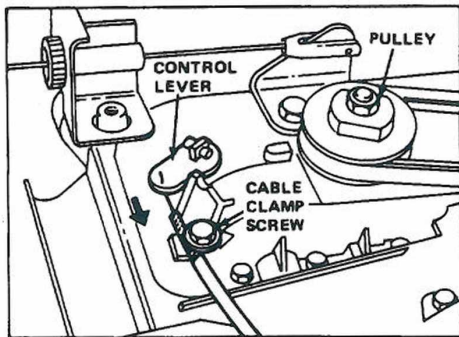

Figure 26
3. **ADJUSTMENT** (Fig. 26) — Loosen cable clamp screw until cable conduit slides. Push transmission control lever toward cable clamp screw and hold lever in place. Pull cable to remove slack and tighten clamp screw.
4. **CHECK ADJUSTMENT** — Assure ground speed control is in "N" and pull mower backward. Pulley (Fig. 26) should not rotate. If pulley does rotate, readjust for neutral: refer to step 3.